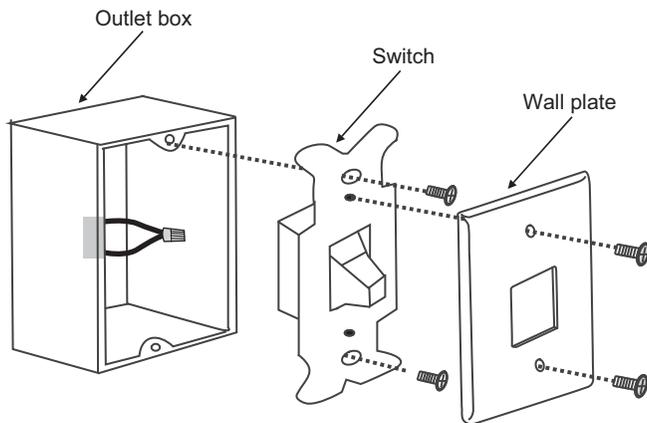

Fig. 28
**Step 1.** Remove the existing wall plate and the old switch from the wall outlet box. Wire nut the **BLACK** leads (hot) together and push back inside the outlet box. (Fig. 28)